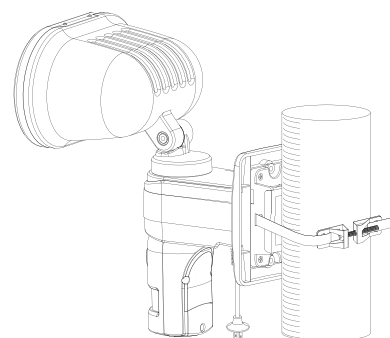

FIGURE 47
(4) Put the unit on the pillar and connect two ends of pole band accordingly. (FIGURE 47)